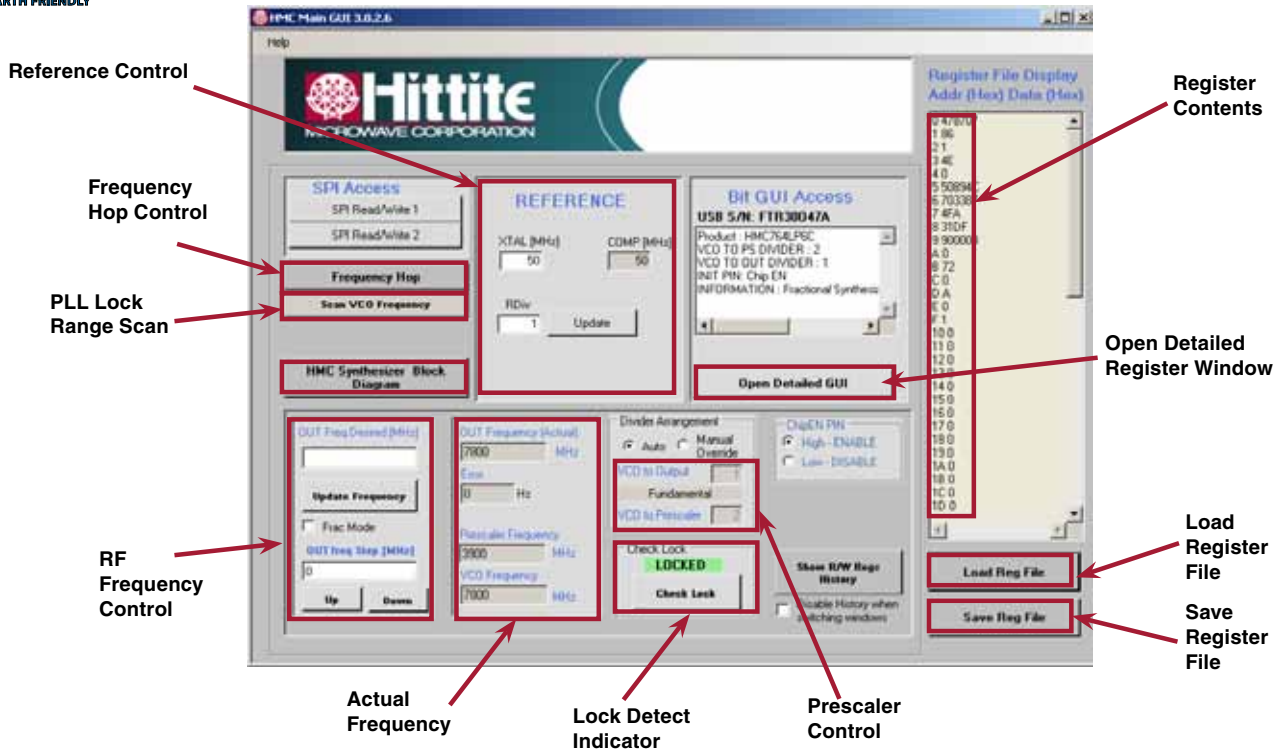
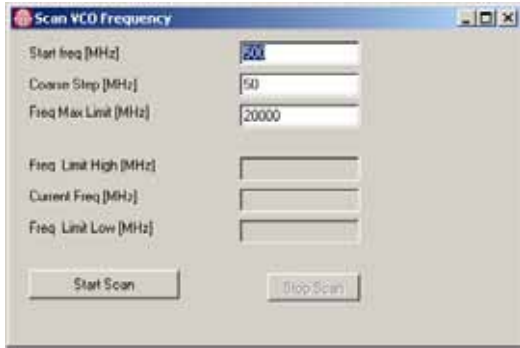
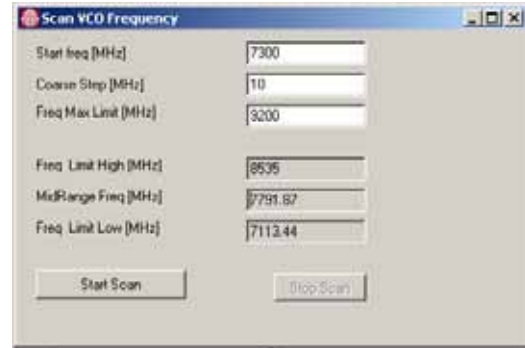

Figure 11. Main Control Window after Loading Register File
Figure 14. Default “Scan VCO Frequency” Window
Figure 15. Scan Setting and Scan Result on HMC764LP6CE
**Step 7.** Click “Load Reg File” button to load the register contents of the part (Figure 11).
**Step 10.** Scan the VCO frequency to find the PLL with Integrated VCO locked range (“Frac Mode” box must be checked). Click “Scan VCO Frequency” button in the main control panel (Figure 11). A new small window pops out as shown in Figure 14. Set “Start Freq”, “Coarse Step” and “Freq Max Limit”, click “Start Scan” button (refer to the specified Min/Max frequencies of the individual product data sheet, set “Start Freq” to Min frequency and set “Freq Max Limit” to 1 GHz above Max frequency). When the scan is finished, the PLL with Integrated VCO locked range will be shown in the window. As an example, Figure 15 shows the scan setting and scan result on HMC764LP6CE. Remember that the frequency lock range is greater than the specified frequency range and the phase noise or spurs will degrade outside of this specified window.
Click “Frequency Hop” button in the main control panel (Figure 11). A new small window pops out as shown in Figure 16. Set “Frequency #1”, “Frequency #2” and “Dwell Time” in this window. Then click “Start” button. The RF signal will switch between “Frequency #1” and “Frequency #2” in the defined “Dwell Time”. Figure 17 shows a typical example of the “Frequency Hop” setting on the HMC764LP6CE. This function usually is used to find the frequency settling time of the PLL with Integrated VCO.